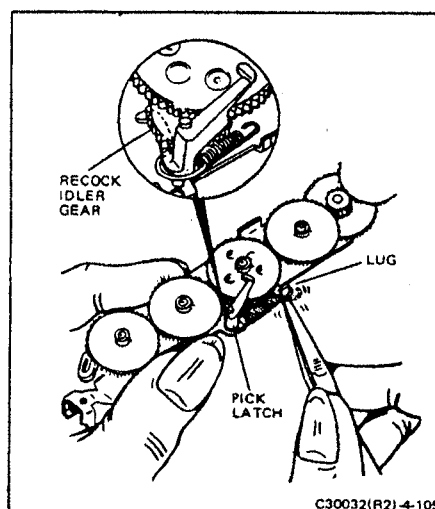

FIGURE 4-105 INSTALLING THE PICK LATCH
8. On newer cameras, position the pick latch pivot in the proper hole of the outer plate and hook the longer end of the pick latch spring on to the latch. Using tweezers as shown in Figure 4-105, hook the opposite end of the spring over the retaining lug.
9. On early cameras, hook the wide end of the pick latch spring on the pick latch and slide the short hooked end of the latch under the recock gear. (See the inset in Figure 4-105.) Set the latch pivot into the hole on the outer plate and; with tweezers, hook the opposite end of the spring over the retaining lug.